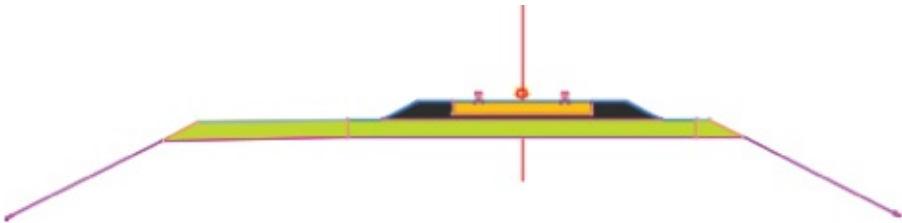

Figure 11.23 Your completed rail assembly
- Your completed assembly will look like Figure 11.23.